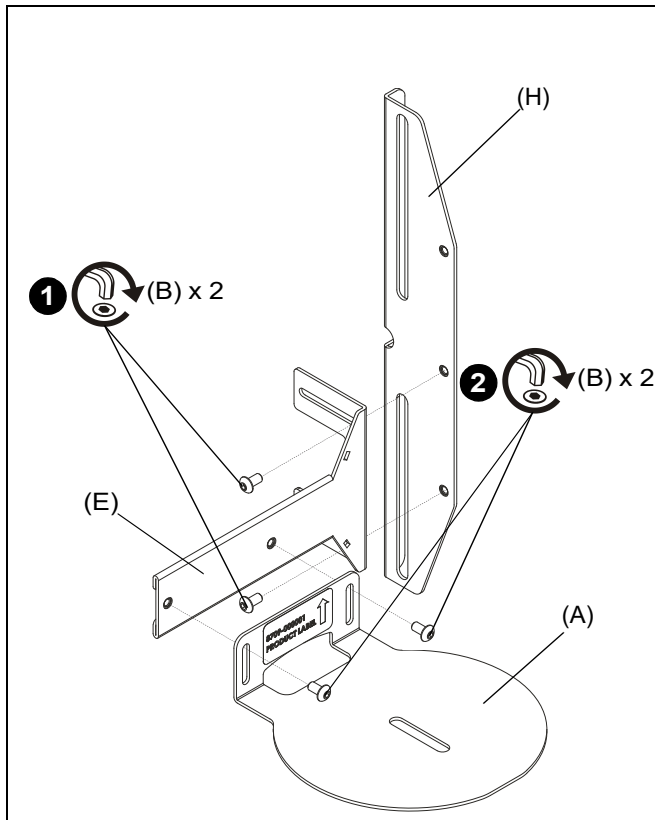

Figure 1
1. Use two #10-24 x 3/8" button head cap screws (B) to secure camera shelf bracket (E) to vertical bracket (H). (See Figure 1)
2. Use two #10-24 x 3/8" button head cap screws (B) to secure shelf (A) to shelf bracket (E). (See Figure 1)